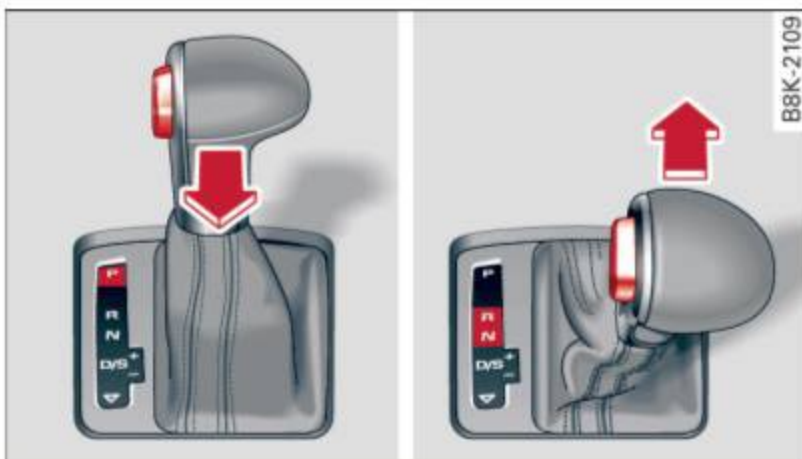

Fig. 85 Shift gate: selector lever lock positions and interlock button highlighted
- ▶ Step on the brake pedal. *At the same time* press and hold the interlock button on the side of the gear selector knob ⇒ *fig. 85* with your thumb until you have moved the selector lever to the desired position.
The lock button on the selector lever prevents the lever from being accidentally shifted into certain positions. Pressing this button deactivates the selector lever lock. Depending on the direction of the shift, the selector lever locks at different positions. The positions are highlighted in the illustration ⇒ *fig. 85*.